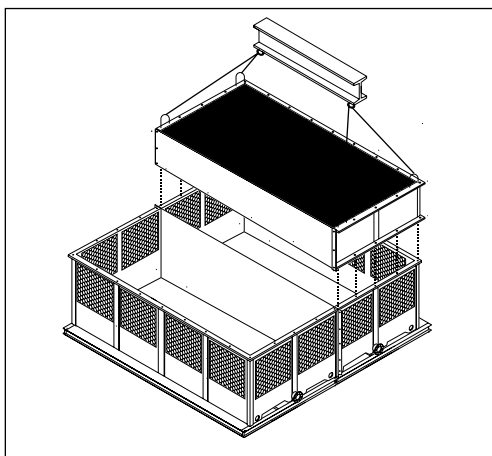

Figure A-28: Lower body section 1 installation for a Four Fan Tower (RT-D or RTP-D)
- K. **Only if your Tower is an RT-D or RTP-D model:** This includes an additional part of body section (Lower Body section). Place Lower Body section #1 on top of basin section #1, then bolt down and secure the horizontal flanges with the stainless steel nut and bolt sets supplied by REYMSA. See Figure A-28.